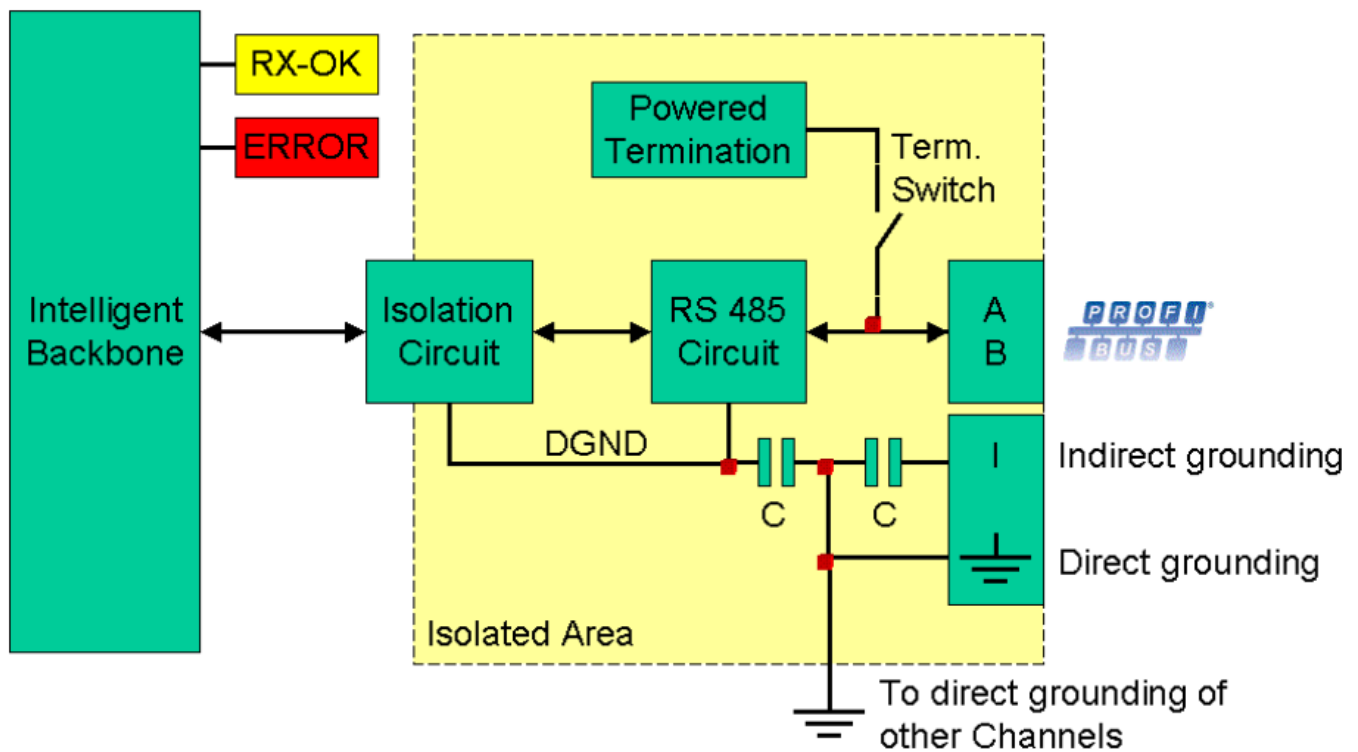

Fig. 3- Channel structure
3. Combination of direct and indirect The power supply must be grounded directly on the power connector. The shielding of the PROFIBUS cables can be directly or indirectly grounded. If you do not want to ground all or some cables to the common ground, i.e. compensating current, the cable shielding must be connected to pin 'I' which stands for Indirect grounding. A capacitor with a parallel high-value resistor will separate the 2 potentials (Fig. 3), ensuring the protection of the signal against non-DC disturbances. If by accident on 1 channel the Direct Grounding is connected with the Indirect Grounding, the connection to the Direct Grounding bypasses the capacitor in the Indirect Ground connection. The current on the shield will flow to Direct Ground.